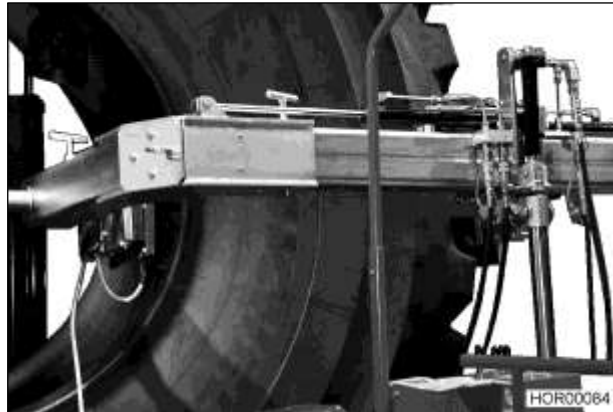

Bild 17 Positioning the machine
- Use the operating lever to move the tyre laterally and use the hydraulic lift/lowering device or the inclining/tilting mechanism to align the position of the two heating plates with the area to be repaired (Bild 17).